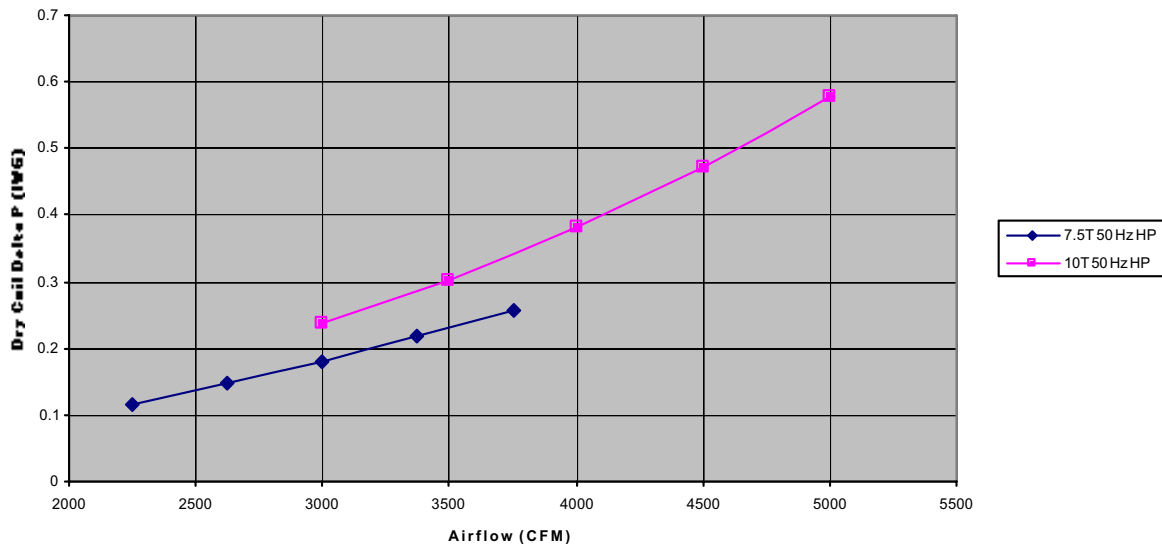

FIGURE 23 - DRY COIL DELTA P
4. The CFM through the unit can be determined from the pressure drop indicated by the manometer by referring to Figure 23. In order to obtain an accurate measurement, be certain that the air filters are clean.